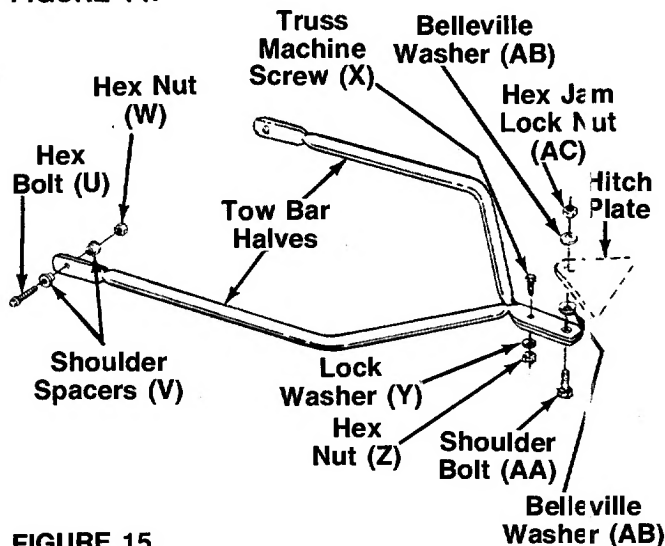

FIGURE 15.
2. Place one bar half in position on frame of vacuum. Place one shoulder spacer (V) between frame and tow bar. Next, place shoulder spacer (V) and hex bolt (U) through tow bar and frame. Secure with hex nut (W). See figure 15. Repeat on other side.
3. Secure the two tow bar ends together with truss machine screw (X), lock washer (Y) and hex nut (Z). See figure 15.
To attach the tow bar to a hitch, place the shoulder bolt (AA) up through the tow bar. Place one belleville washer (AB) on the shoulder bolt, then the hitch plate and the other belleville washer. Cupped side of the washers must be against the hitch plate. Secure with hex jam lock nut (AC). See figure 15.